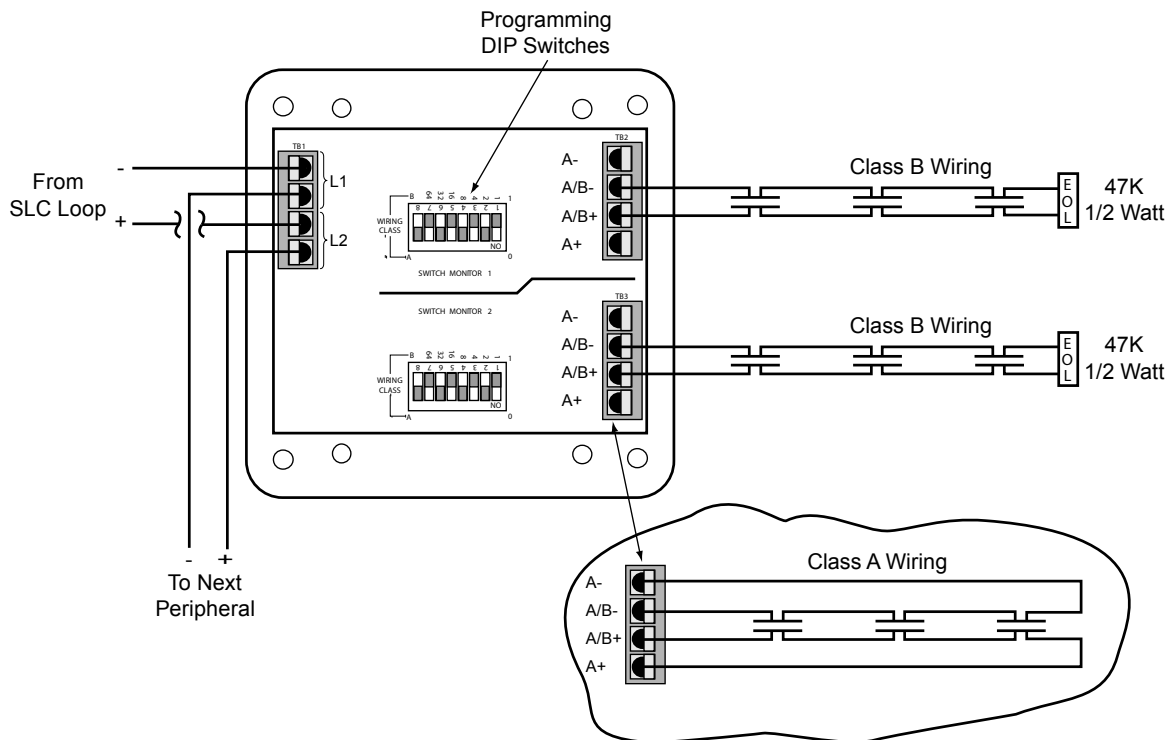

Figure 11 - 55000-790ADV Wiring
Incorporated with each individual IDC circuit is a built-in priority interrupt feature which allows rapid response capabilities from highly critical contact devices (e.g., manual pull stations, etc.). Two (2) eight position programming DIP switches are provided on each Dual Switch Monitor Module for IDC circuit addressing and wiring classification definition. The 55000-790ADV mounts to the front of a standard 4" square or 2-gang electrical outlet box. Displayed on the front of each 55000-790ADV is two (2) red status LEDs which flash when the individual address is polled and illuminate steady when the IDC circuit is active (see figure 11).